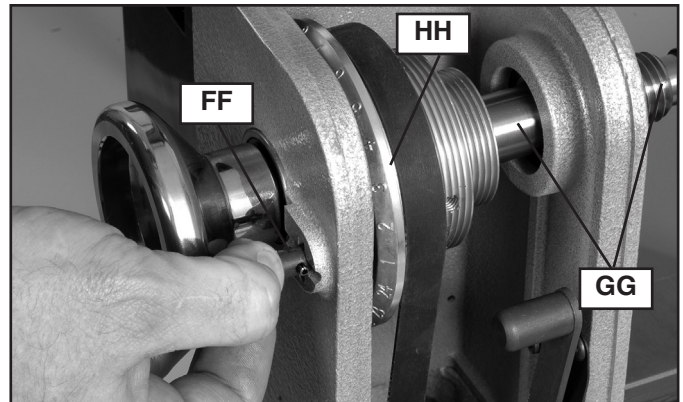
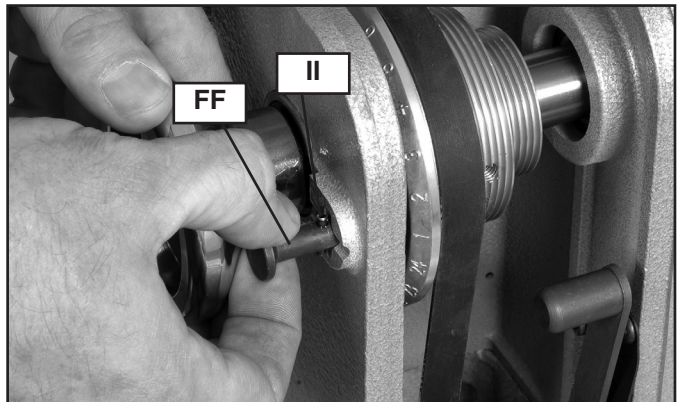

Fig. 21
Fig. 21a
The lathe is equipped with an indexing pin (FF) Fig. 21. The pin allows the spindle (GG) to be locked in 24 positions—as labeled on indexing wheel (HH)—for use in various operations. To use:
1. Rotate indexing wheel (HH) so spindle (GG) is in desired location.
2. Pull back index pin (FF) slightly from retaining groove.
3. Rotate indexing pin 90 degrees so the crosspin (II) lines up with recess, as shown in Fig. 21a.
4. Release indexing pin (FF) so that it engages numbered indexing wheel (HH) Fig. 21 and locks spindle (GG) in place.
**NOTICE:** Do not use the index pin (FF) to lock spindle when removing faceplate because this can damage the pin. To remove faceplate, follow directions under **Removing Faceplate** section.